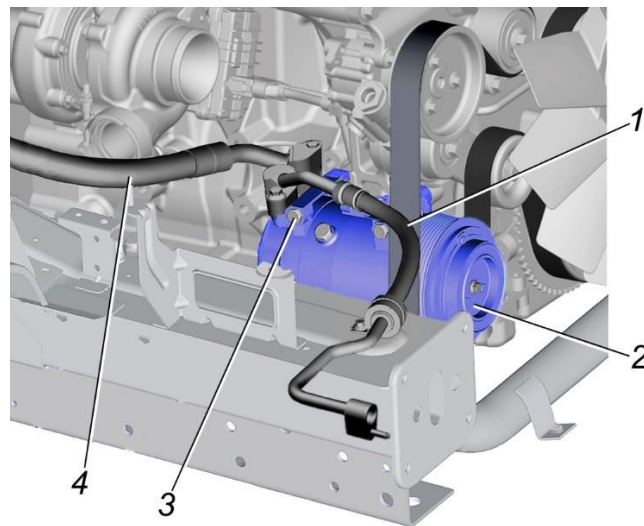

Fig. 2.5. Compressor installation¹⁾: 1 – compressor supply line; 2 – compressor; 3 – bolt; 4 – compressor discharge line
- disconnect the supply and return lines (Fig. 2.5) from the air conditioner compressor¹⁾;